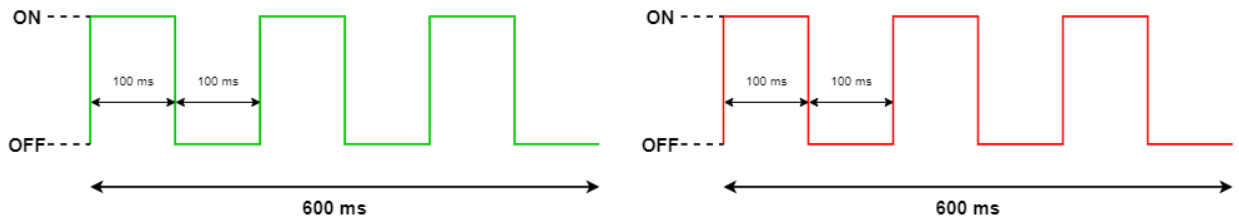

Figure 5-9: The TS POST Pass (left) and FS POST Failure (right) LED Patterns
- a. If the POST passes, **TS** is toggled ON and OFF 3 times: every 100 ms for 0.6 s, as shown in Figure 5-9. In this case, the LED pattern proceeds to step 4.
- b. If the POST fails, **FS** is toggled ON and OFF 3 times: every 100 ms for 0.6 s, as shown in Figure 5-9. In this case, the device restarts and the LED pattern begins again at step 1 after approximately 4 s